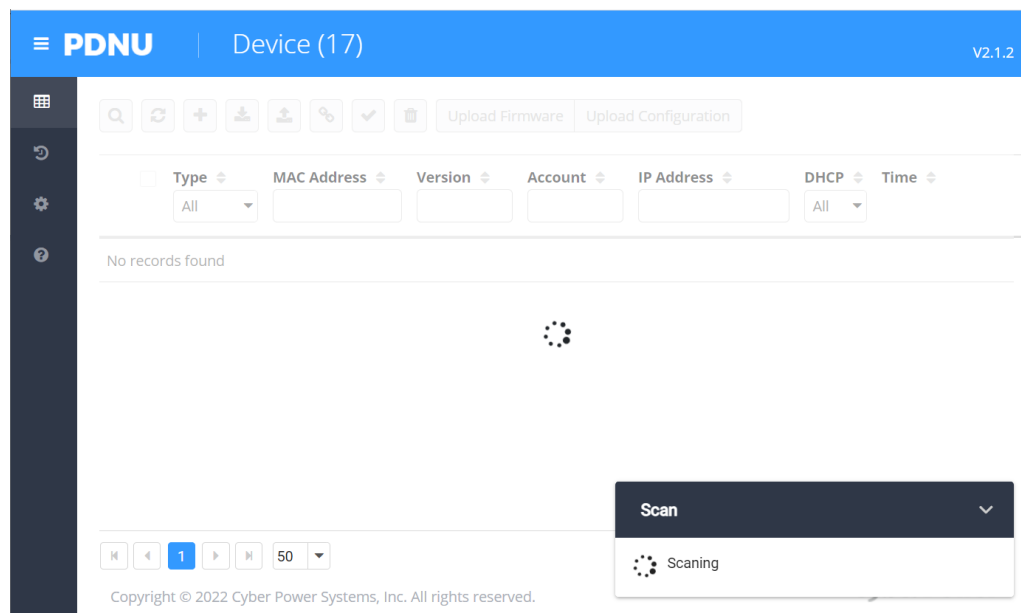

Figure 1.
3. Wait for scanning to finish (shown in Figure 1).